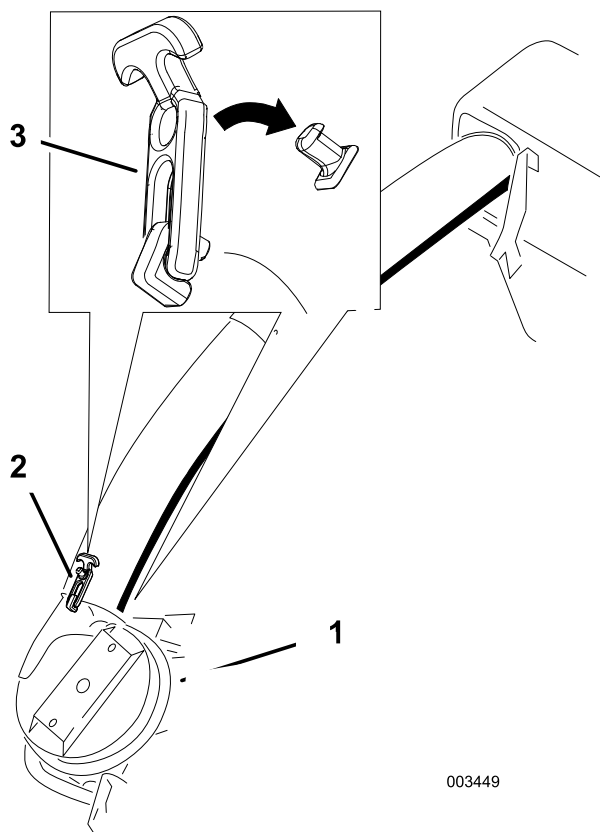

Figure 35
6. Slide the lower tube onto the blower housing and latch them together (Figure 35).